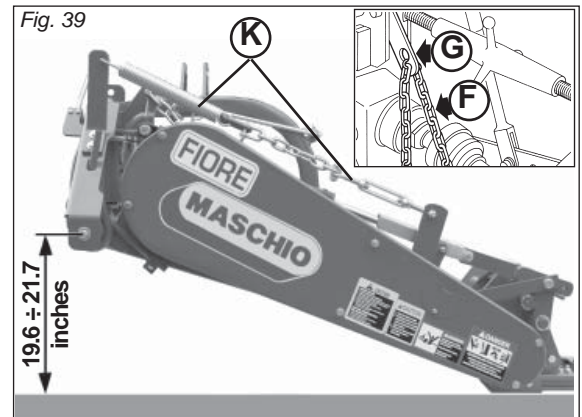

Fig. 39
- Connect one end of the chain (F, Fig. 39) to the mower using the supplied pin and the other end to a stationary point on the tractor. Adjust the height of the mower to the ground (19.6 to 21.7 inches, Fig. 39) by moving the rings of the chain (F, Fig. 39) in the hole on the plate (G, Fig. 39).
- Act on the tie rod-spring (K, Fig. 39) to bring the internal skid close to the ground (without discharging the weight on the ground), lightening the load of the machine on the cutter bar.